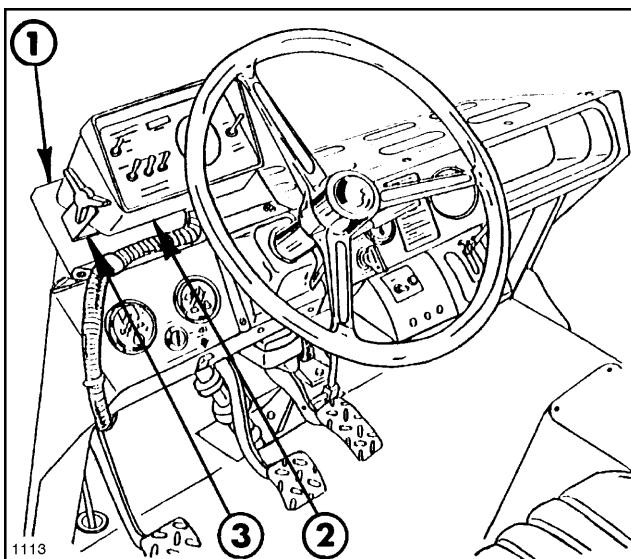

FIG. 5
2. Remove (15) screws and washers securing front hood to vehicle frame and remove hood.
3. Temporarily mount the console mounting bracket to the upper dash support using two of the earlier removed screws and washers (FIG. 5).
4. Using (2) 1/4" x 5/8" hex washer head screws, flat washers and nuts, secure the "U" shaped console bracket to the console bracket to the console mounting bracket. Mount the console to the "U" shaped bracket using the (2) mounting knobs (FIG. 5).